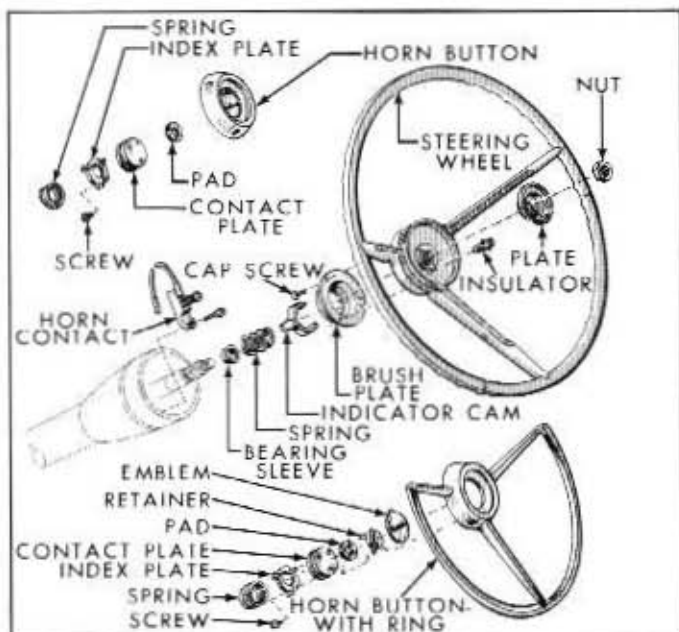

Fig. 5-5—Steering Wheel, Horn, and Related Parts—(60C-1213)
1. Refer to figure 5-5. Remove the horn ring (or button) assembly and related parts.
6. Remove the horn ring (or button) and spring. Remove the steering wheel retaining nut and the steering wheel. Refer to figures 5-5 and 5-6.
1. Disconnect the horn wire and the turn indicator wires below the instrument panel, and slide off the plastic insulator. Remove the horn ring (or button) and spring. Refer to figure 5-5.